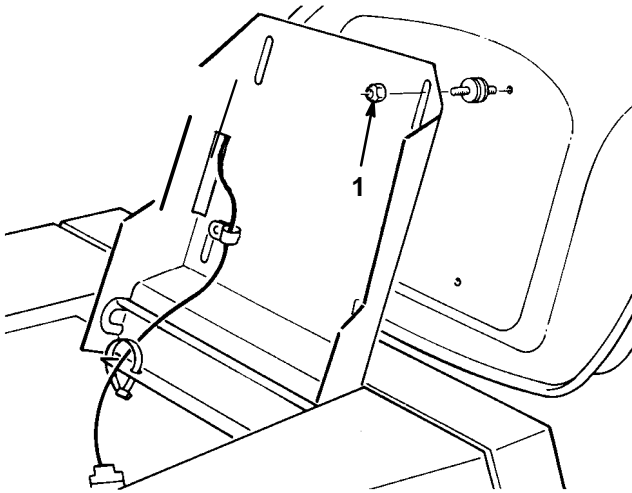

Figure 13
1. Raise the seat and loosen the lock nuts (Fig. 13).